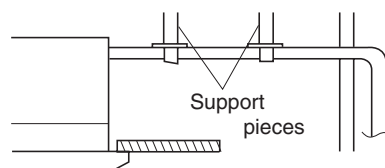

Fig. 1-22
- Do not apply force to the piping on the unit side when connecting the drain pipe. The pipe should not be allowed to hang unsupported from its connection to the unit. Fasten the pipe to a wall, frame, or other support as close to the unit as possible. (Fig. 1-22)